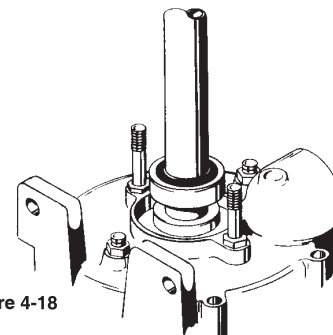

Figure 4-18
28. Solidly supporting the bottom end of the shaft, drive or press a ball bearing (#24) onto the shaft until it rests firmly against the shoulder on the shaft.(refer to figure 4-18) A sleeve properly sized to contact only the inner bearing race will be helpful for this operation.